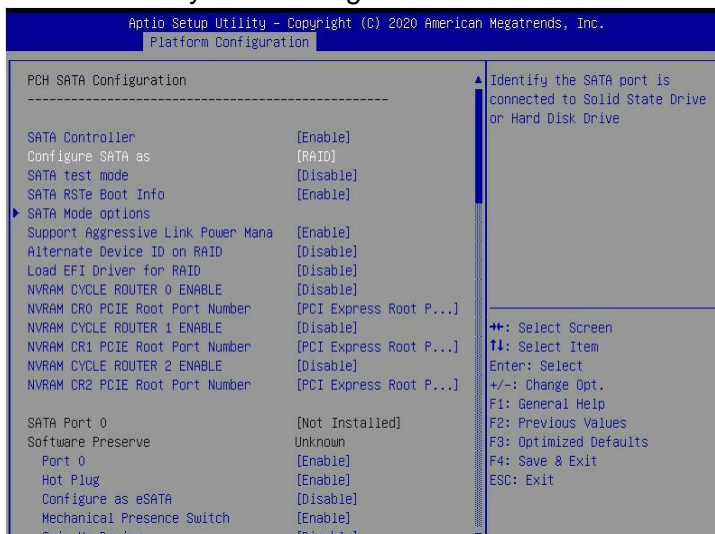

Figure 6-14
- Enter the interface shown in Figure 6-14, select Configure SATA As, and press Enter to select the operating mode of RSTe onboard software RAID.
❖ Figure 6-14 Modify the working mode of the RAID card